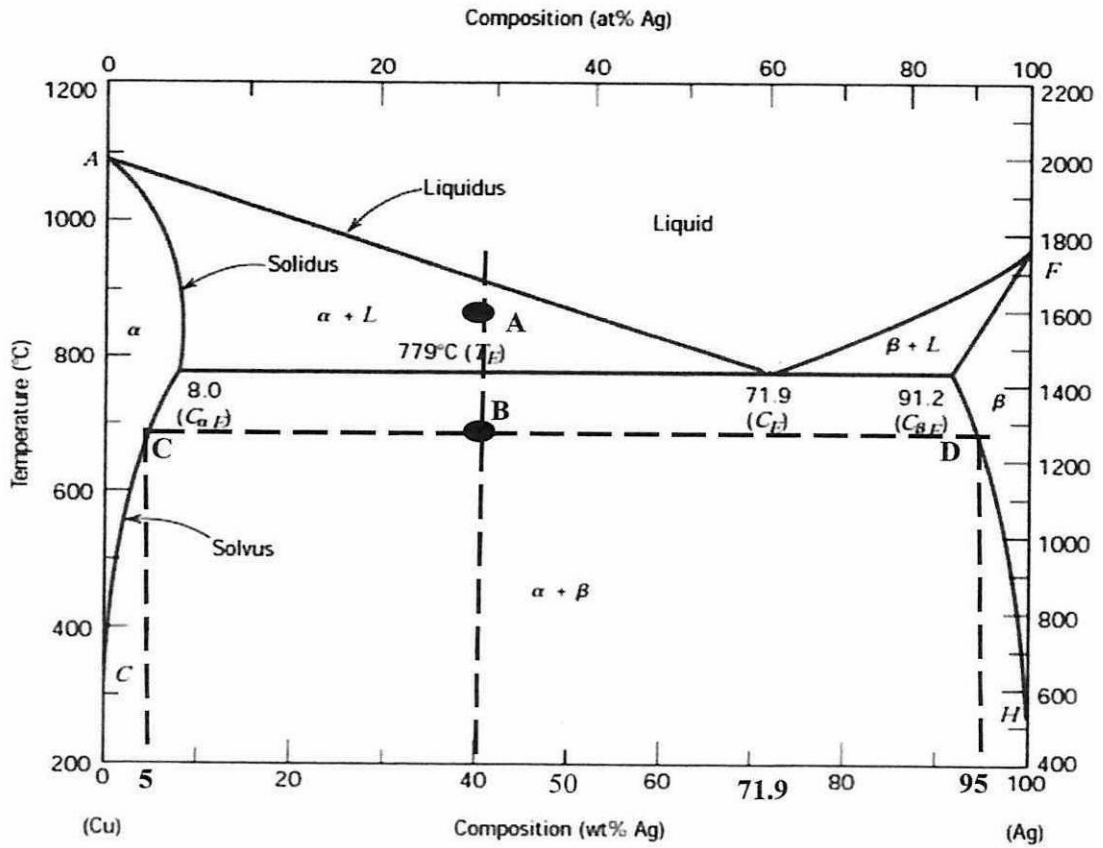

Figure Q1(d): Cu-Ag phase diagram
- (b) List out **THREE (3)** types of invariant reaction. (3 marks)
- (d) **Figure Q1(d)** shows the Cu-Ag phase diagram.
- (b) Explain **THREE (3)** different types of heat treatment for steel, including the specific procedures involved in each process and the intended resulting microstructure (6 marks)